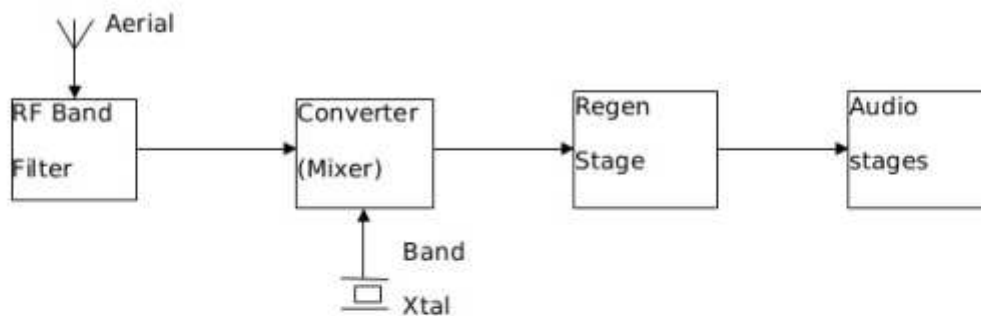

Fig 1 – RX Block Diagram
The advent of cheap and capable computer driven DDS style RF oscillators for a receiver, means that analogue multi-band RXs are a thing of the past! Consequently I am always on the look out for other interesting projects to add to my line-up. A good customer in Wales suggested I might consider a small Amplitude Modulated (AM) transceiver for 10m – hence these deliberations! It would need better selectivity than a single plain Tuned RF stage so I first considered a fairly conventional superhet; the usual IF range of up to a few MHz would mean a first tunable local oscillator probably over 20 MHz – not going to be frequency stable! Instead I considered a 'converter' ahead of the main tunable RX which would also provide the selectivity. This appeals because the converters could be for 'any single band' with different crystals driving its mixer – so allowing for the keen 40m AM fraternity. So what form should the main tunable and selective RX take? It could be a superhet but it then becomes triple conversion overall – complex and with potentially many unwanted spurs! The obvious choice is a Regen RX – simple with much gain and good stability if its frequency range is in the low MHz range. The Regen allows reception of CW or SSB as well as AM which might be an added attraction. Some might say they are fiddlesome and difficult to use – a fair criticism unless specifically addressed; so this needs a restricted tuning range, Regen stage gain control (either side of the critical point at which oscillation starts) without a change in frequency and which is very smooth. These are (normally) addressed by using a low MHz Regen stage frequency and a control pot with added presets on its 'top' and 'bottom' leads to turn it into a 'fine' form Regen control. A tuning offset can also be added just in case that is needed when switching to transmit, this is because the Regen oscillation needs to be quite large for that and this might lead to a small jump in frequency when it is forced to oscillate somewhat more strongly! (I happen to know that our Editor has been investigating Regens with automatic gain control, so maybe he will come up with other solutions, especially for really weak CW that appear challenging for a conventional Regen!) This project's potential block diagram (Fig 1) looks like this:-